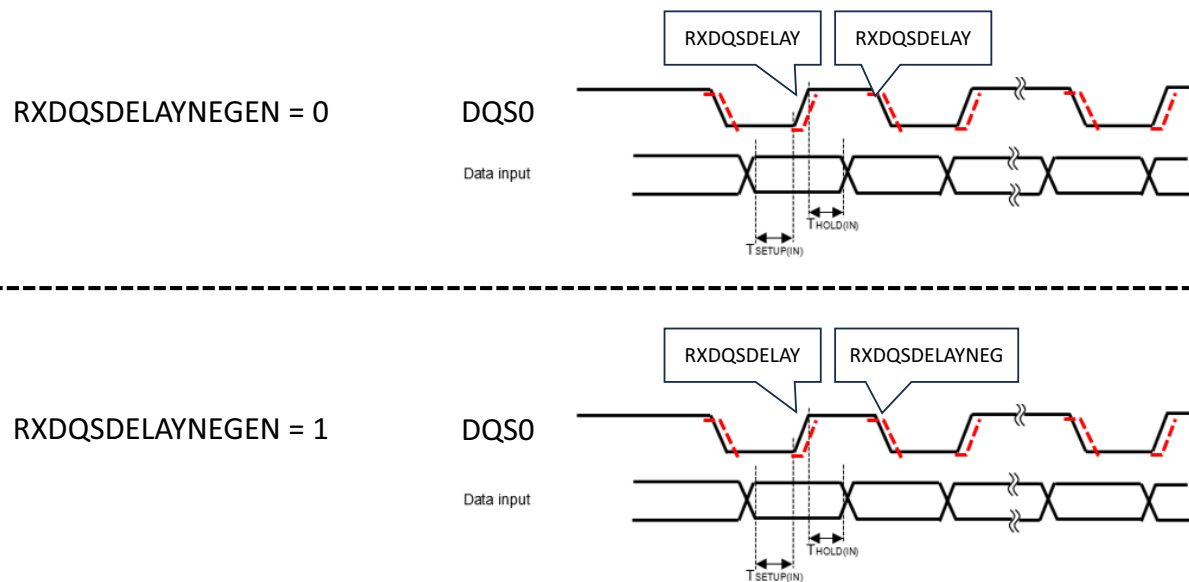

Figure 25. Octal/Hex DDR Mode with DQS - Read Delay Lines - Lower Data Byte DQS
Figure 25 shows DQS0 delay parameters in Octal/Hex DDR Mode with DQS, with respect to the input (RX) data byte (lower data byte for Hex) when $RXDQSDELAYNEGEN = 0$ and when $RXDQSDELAYNEGEN = 1$. See the fields in the $DEVnDDR$ register which set these parameters.